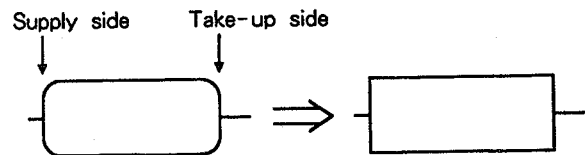

Fig. 2-3
STEP4. While observing the B-HEAD waveform using the oscilloscope (Note: only the B-HEAD signal is recorded on the SONY WR 5-1NP test tape), fine-adjust the heights of the roller guides at the supply side and take-up side of the drum using a wrench, so that the leading and trailing edges of the RF waveform have virtually the same level as that of the peak portion on the center of the waveform. (See Fig. 2-3)